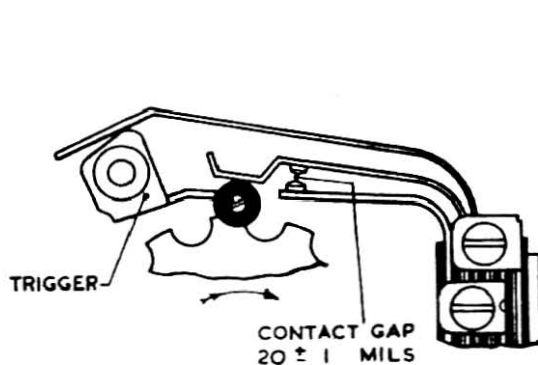

FIG. 11
- .2 The inner (thick) impulse spring should be set so as to give a contact clearance of approximately 20 mils during the break period (see Fig 11).